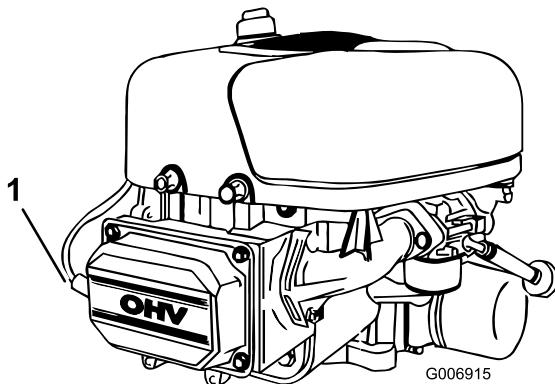

Figure 23
- Disconnect the wire from the spark plug (Figure 23).
3. Connect the wire to the spark plug (Figure 23).